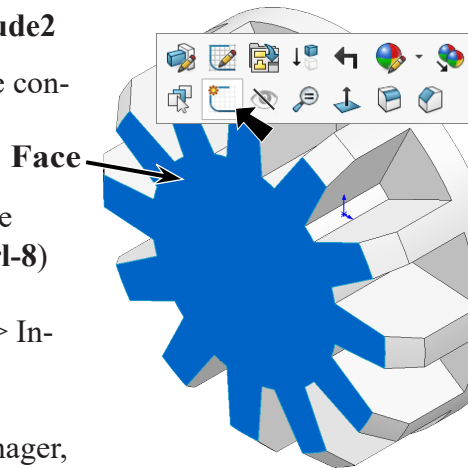

Fig. 23
Step 1. Click the **front face of Extrude2** and click **Sketch** on the context toolbar, **Fig. 23**.